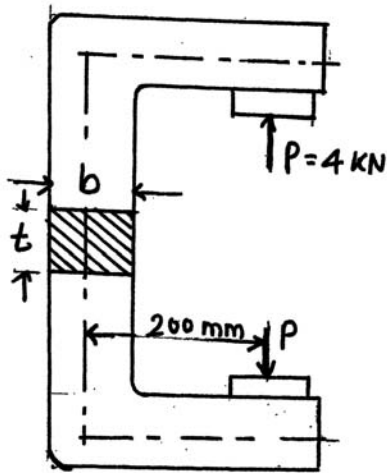

Figure No. 4
- d) Figure No. 4 shows the frame of a screw clamp carrying a load of 4 kN. The cross section of frame is rectangular having width 60 mm and thickness 20 mm. Determine, the resultant stresses for the frame material.